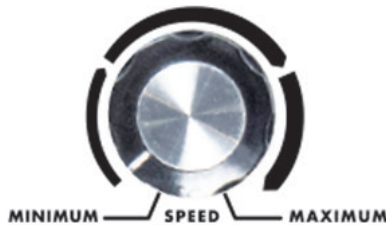

Figure 8
2. Position the speed dial pointer on the control panel at MINIMUM (see Figure 8.)